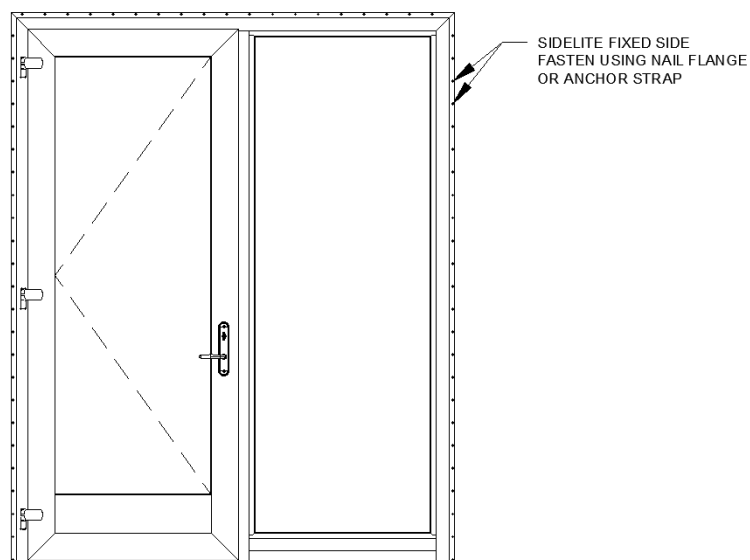

Figure 18: Sidelite Fastening
- a. Fasteners as specified in 5.6, A, shall be placed in each pre-punched elongated hole, but be placed no closer than 4" from each corner. See figure 18.